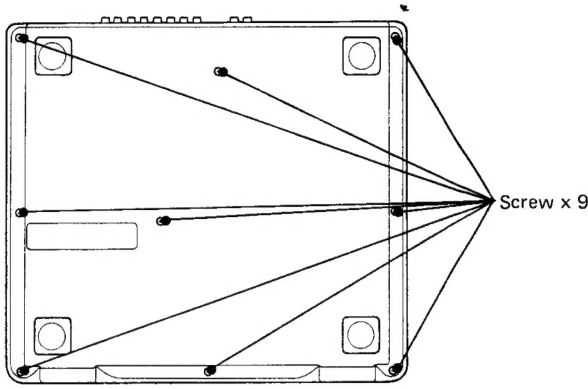

Fig. 7-1 Bottom Case Mounting Screws
- 2) Remove the nine screws securing the bottom case. (Fig. 7-1)